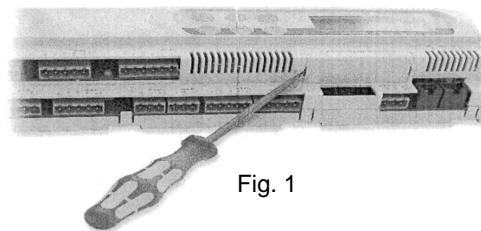

Fig. 1
- Switch off the pCO2 and remove the "expansion memory" cover with a screwdriver (see "Copy from pCO2 to the Software Key" on page 3–5/Fig. 1)
- Switch off the pCO2 and remove the "expansion memory" cover with a screwdriver (see Fig. 1)